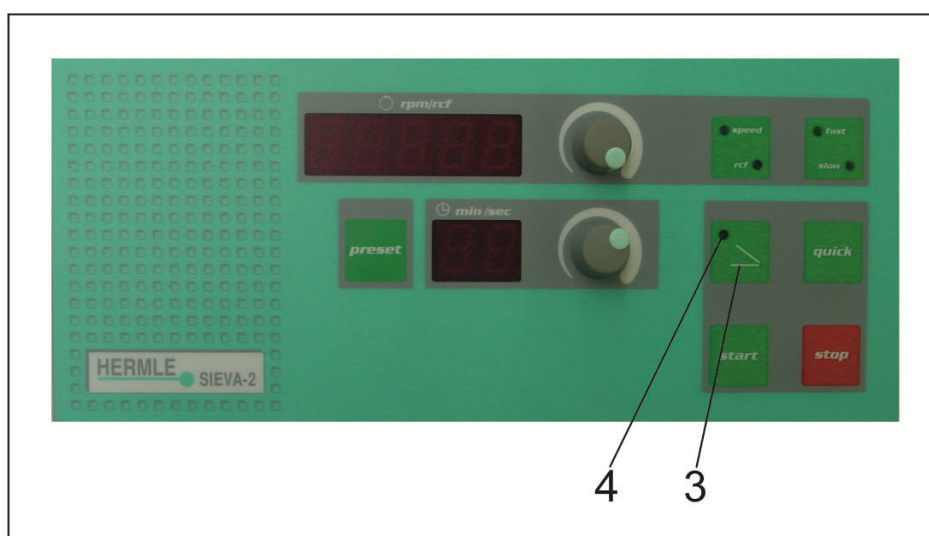

Figure 2
Press key "lid" (3) (see Figure 2) to open the lid. The green control lamp will extinguish as soon as the lid will be opened or the unit started.